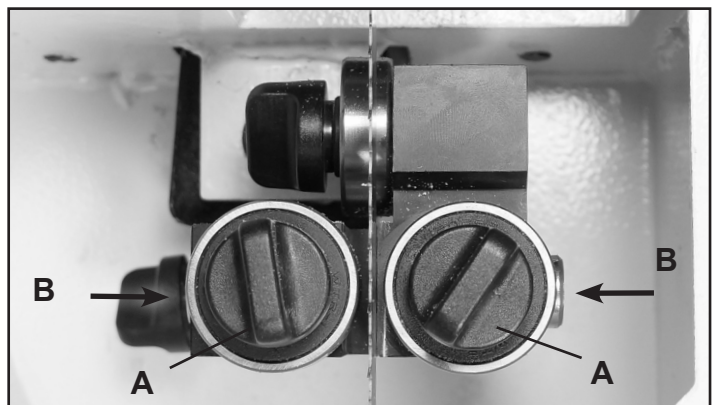

FIGURE 25
1. Position the right and left roller guides close to the blade. Loosen the front Lock Handles (Fig. 25, A). Move the guides towards the blade by pushing the ends of the Guide Shafts (#81A, B), or use the front lock handles to pull the guides towards the blade. Lock the guides in place. Fig. 25.